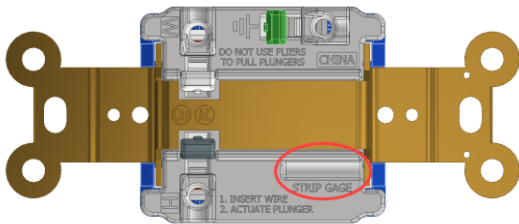

Fig. 5
1. Strip each conductor according to the strip gage located on the back of the receptacle as shown in Fig. 5.